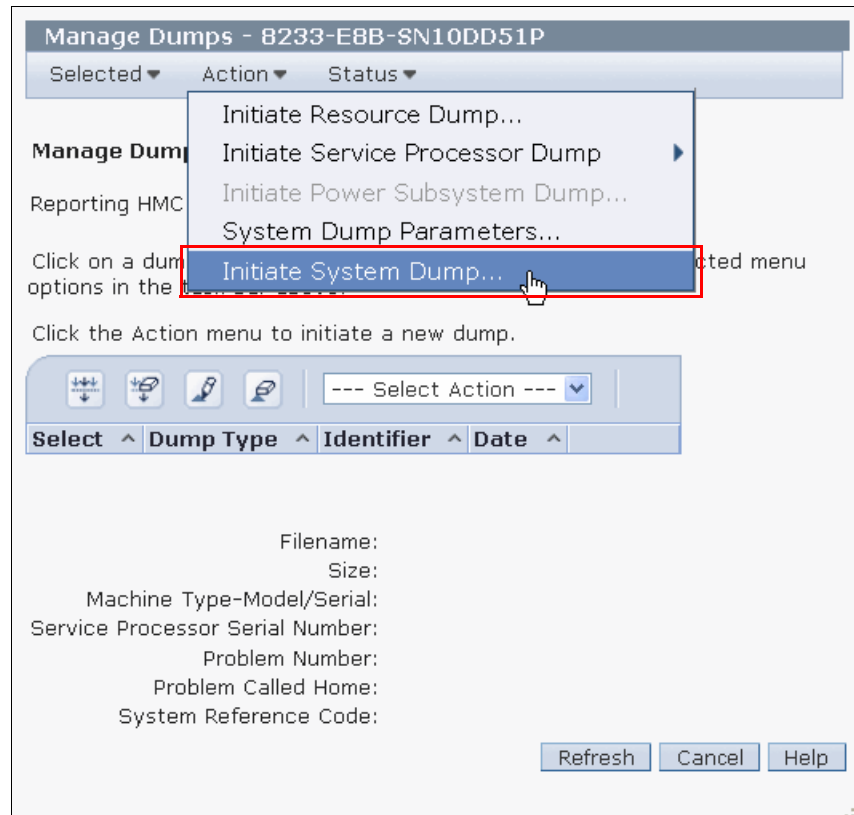

Figure 6-18 Service Management: Initiate system dump
2. In the Manage Dumps window, select **Action** → **Initiate System Dump**, as shown in Figure 6-18.